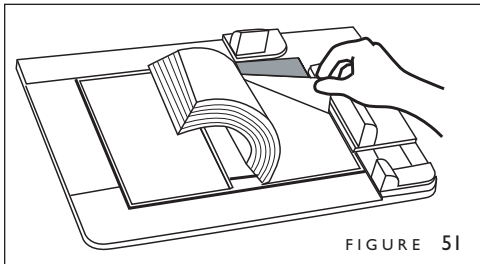

FIGURE 51
13. Carefully lift the right side of the book block and remove the large release paper from the right panel of the Fastback Hardcover (figure 51). Lower the book block onto the panel and press it against the panel to secure it.